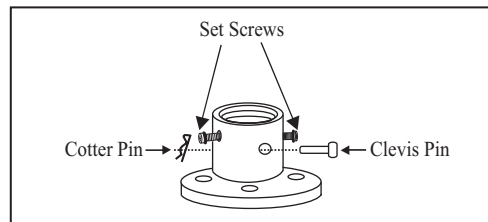

Figure 10
4. Remove the clevis pin, cotter pin and set screws from the top of the motor assembly. (Figure 10)